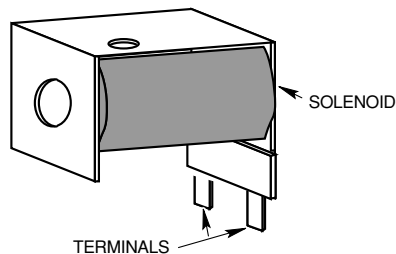

Figure 6-7
3. Remove the wire from either solenoid terminal (see Figure 6-7).